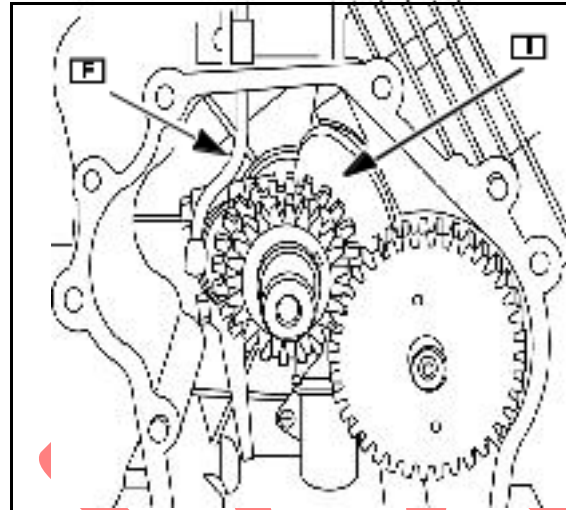

Fig. 14
Rotate crankshaft ([I] Fig. 14) as necessary for adequate clearance to remove governor crank (F).